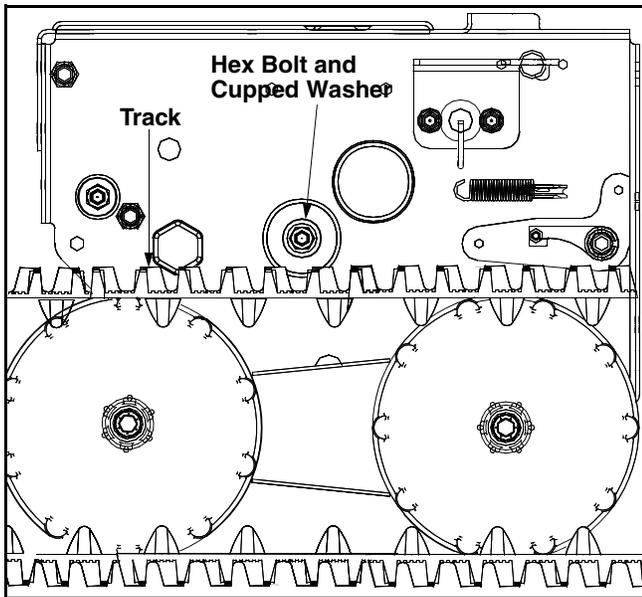

Figure 22
- Using a 7/8" wrench to hold the shaft, loosen, but do not completely remove, the hex bolt and cupped washer on the left end of gear shaft. See Figure 22.